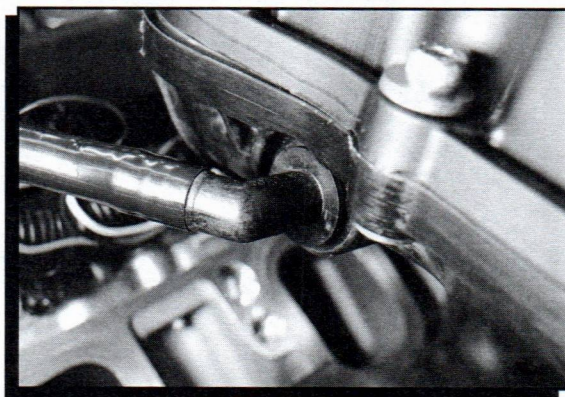

Figure 12 Connect the Brake Booster Tube.
2. Lube the vacuum port O-ring and the tube itself. Insert the tube into the manifold pressing it in straight until it stops and is secure (Figure 12).